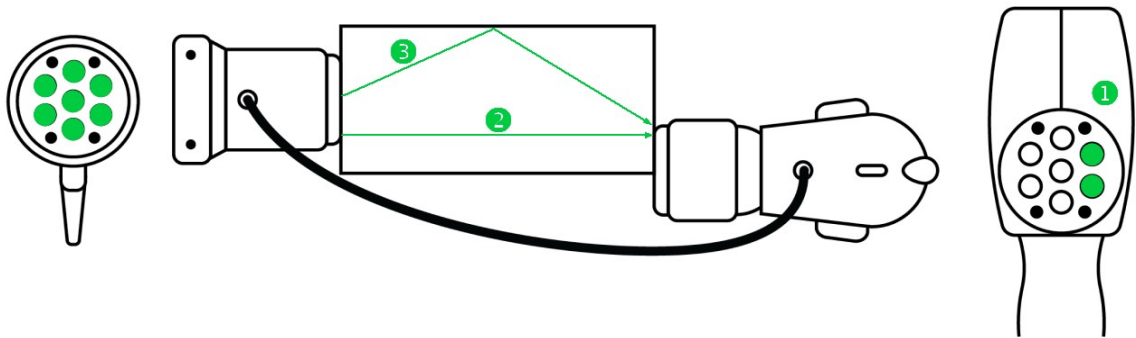

Figure 25: Core testing arrangement, Tx = 2, Rx = 7.
If the signal still became saturated^[38] and unstable, reduce the number of the transmitter's active sensors, see Figure 25 ① and ②.